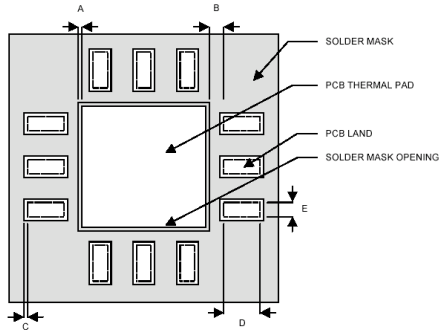

Figure 24. PCB Land and Solder Mask Recommendations
1. PCB land and solder masking recommendations are shown in Figure 24.